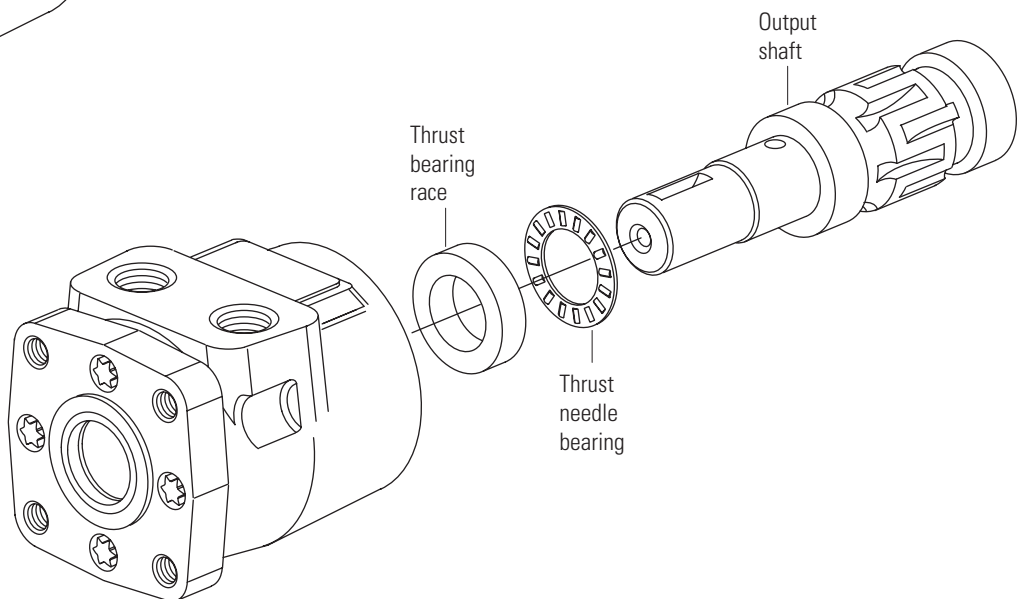

Figure 2
3. Un-clamp the motor and remove the output shaft, thrust needle bearing, and thrust bearing race (see Figure 2)